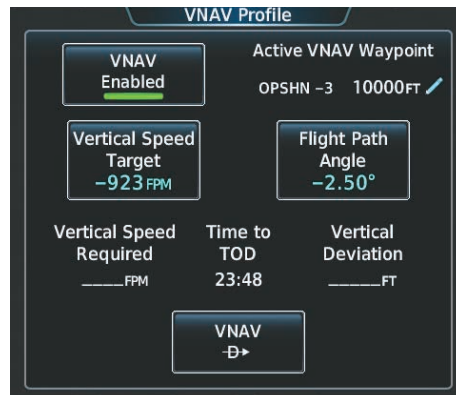

Figure 5-191 Adjusting the Descent
- a) From **Home**, touch **Flight Plan** > **VNAV** to display the VNAV Profile Screen as shown in Figure 5-191.